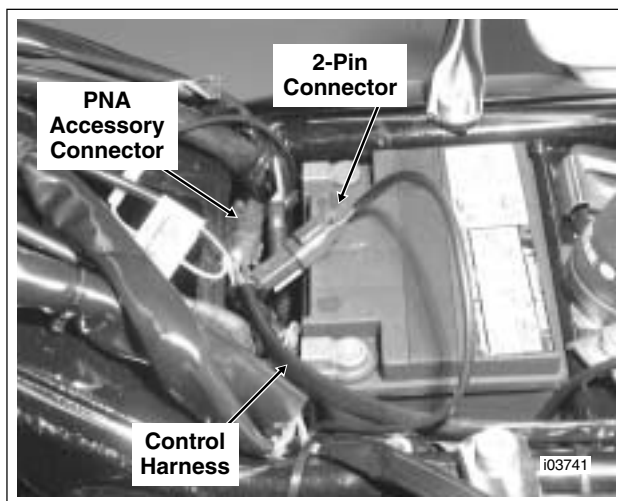

Figure 8-42. Install Tour-Pak Harness and 2-Pin Connectors
24. See Figure 8-42. Route control harness (from Tour-Pak) along left upper frame tube to PNA accessory connector in space immediately in front of motorcycle battery.